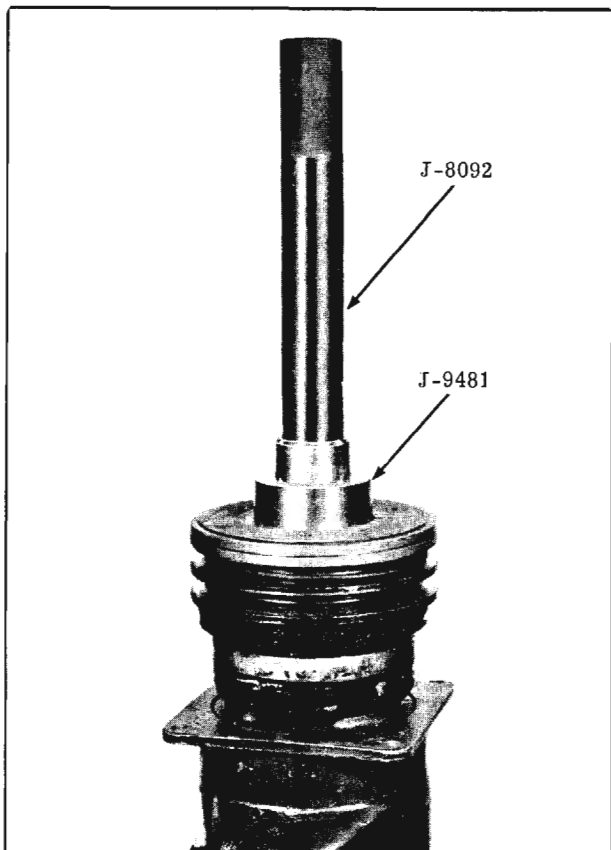

Fig. 15-50 Installing Pulley and Drive Plate on Compressor
1. Install the pulley and bearing assembly on the end of the compressor, with Tool J-9481. (Fig. 15-50) The pulley should rotate freely.